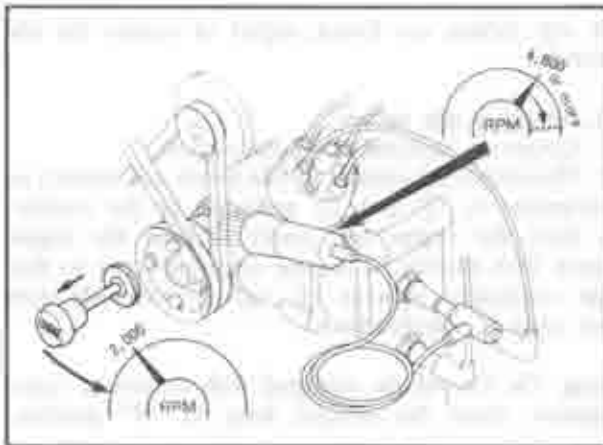

Fig. 1A-10. Checking trailing ignition operation
3. Disconnect the coupler of the water temperature switch and connect a jumper wire to both terminals in the coupler (from control unit) as shown in Fig. 1A-6.